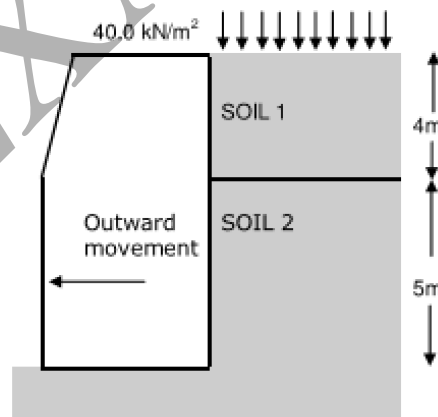

Figure Q1
- b) A concrete retaining wall retains two layers of soil (Figure Q1). With depth the sequence includes: 4.0m of soil 1 and 5.0m of soil 2. Plot the active stress and determine the total thrust and point (line) of action for the wall shown below. The properties of the materials are summarised below: